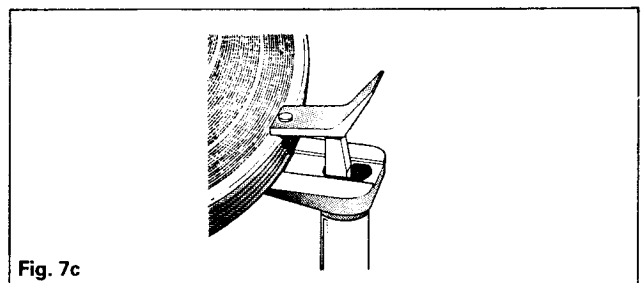

Fig. 7c
- 2 Place up to five 33 $\frac{1}{3}$  rev/min, 12in records on the spindle, with the edge of the lowest record resting on the support platform (7.8). Lift the record steady until it can be swung inwards and down to bear lightly on the top of the record stack. See figure 7c.